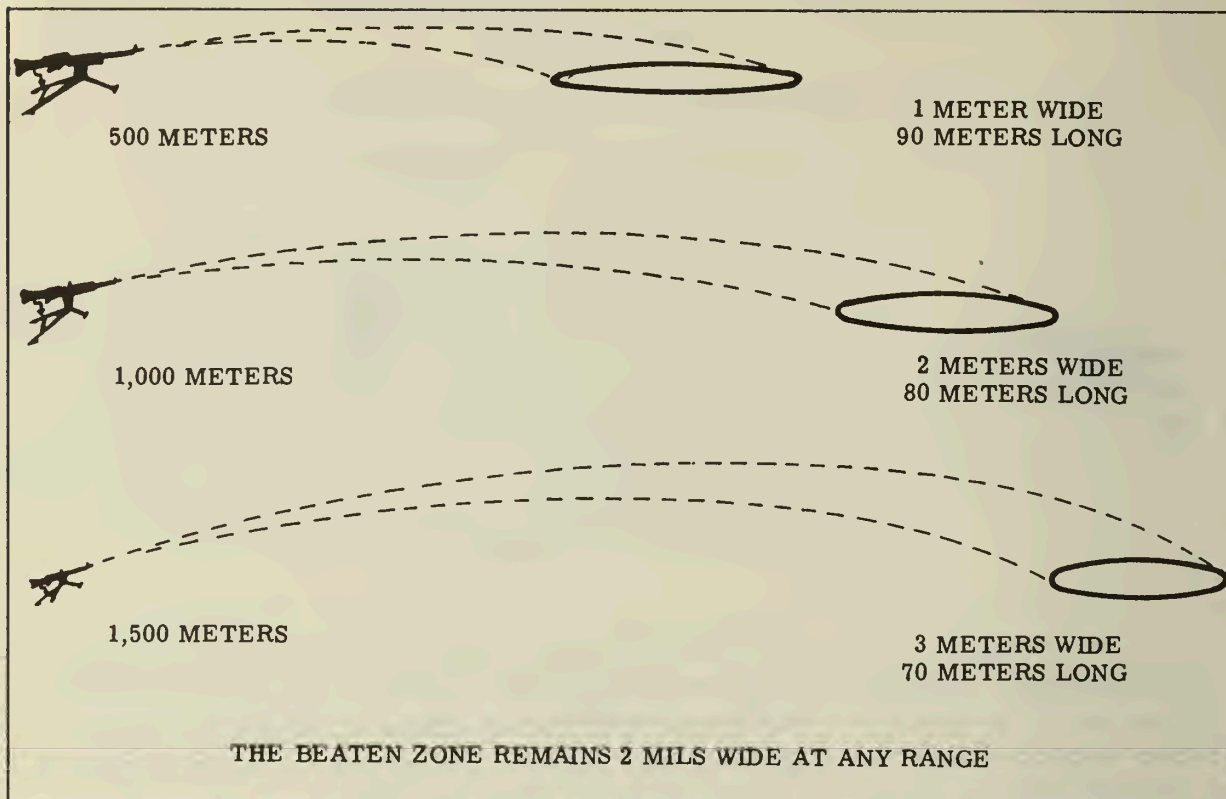

Figure 105. --Beaten Zones at Various Ranges.
f. Beaten Zone. --As the cone of fire strikes the ground, an elliptical pattern is formed. This is called the beaten zone. The center of the beaten zone is called the center of impact. The gunner is not required to know the exact lengths and widths of beaten zones. However, he should know that as the range to the target increases, the beaten zone becomes shorter and wider. The slope of the terrain will affect the length of the beaten zone but will not affect its width. The width of the beaten zone is a constant two mils wide at all ranges. A mil is an angle. There are 6,400 mils in a circle. For practical use, a mil may be defined as the angle which at a distance of one thousand units is subtended by a chord approximately one unit wide. Substituting meters for units, it would be one meter wide at a distance of 1,000 meters. Using this definition, the width of the beaten zone in meters can be determined for any range by simply multiplying two mils by the range expressed in thousands of meters. For example, to determine the width of the beaten zone in meters at a range of 1,000 meters, multiply two (mils) times one (range in thousands of meters) equals two (width of the beaten zone in meters). (See fig. 105.)